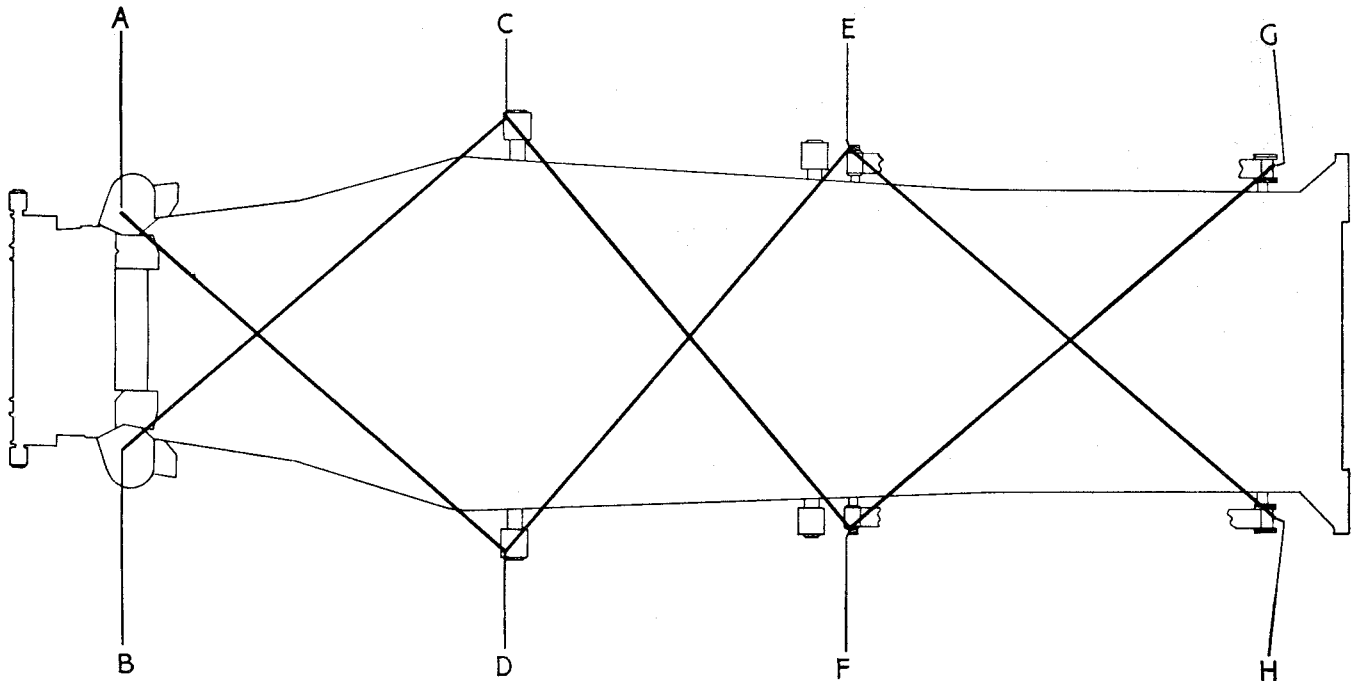

Fig. 4 Utilising the eight generated points for the assessment of frame "squareness."
6. CHECKING SIDE MEMBERS FOR SQUARENESS (Fig. 4)
- (i) When BC, DE, and FG are of greater length than AD, CF and EH respectively the left hand (BH) side member is forward of the right hand (AG) side member.
- (ii) When AD, CF and EH are of greater length than BC, DE and FG respectively the right hand (AG) side member is forward of the left hand (BH) side member.